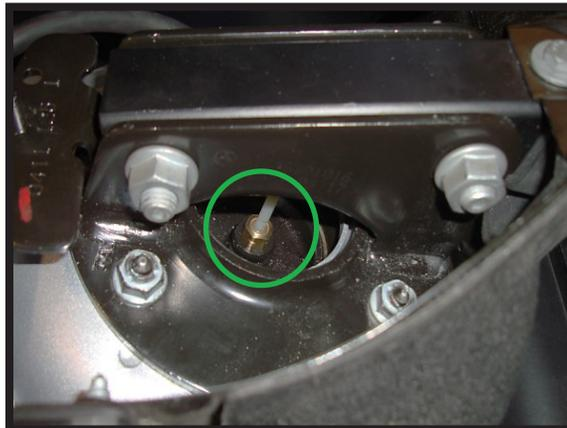

FIGURE 4
7. DISCONNECT THE AIR LINE BY UNSCREWING THE AIR FITTING FROM THE STRUT'S TOP MOUNT. (FIGURE 4)